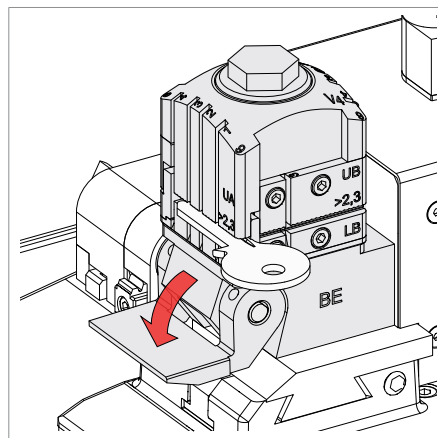

Fig. 130
- 4) Lower the gauge by hand (Fig. 130).